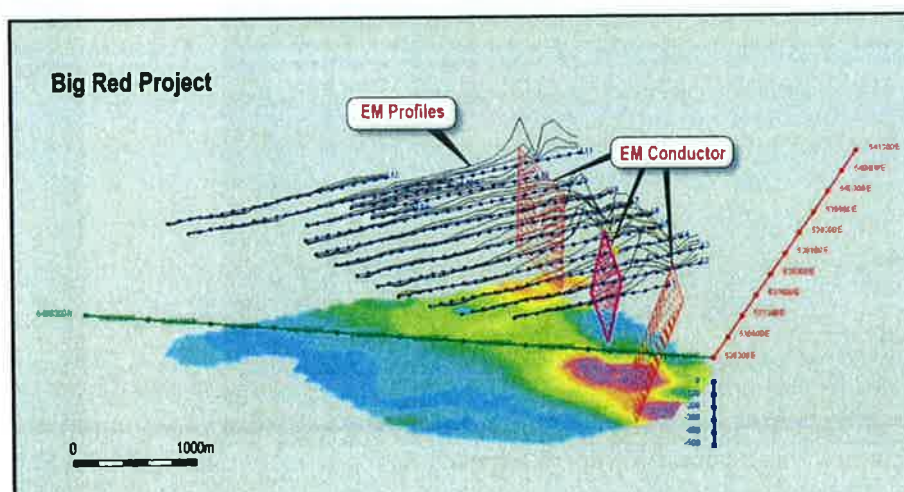

Figure 3. ZC1, ZC2 & ZC3 of high conductance which are high priority drill targets.
- ZC1, ZC2 and ZC3 are of **high conductance** and will be a priority for the upcoming drill program. **See Figure 3**.